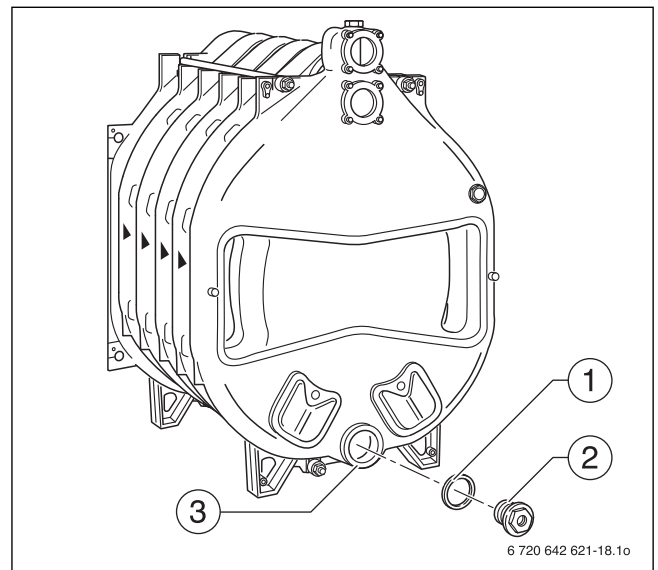

Fig. 23 Fitting the flange
- ▶ Close off lower boiler hub (Fig. 23, [3]) at the front and rear. To do this, place corresponding seal (Fig. 23, [1]) on the relevant boiler hub and seal-in the relevant sealing plug. In this case, the sealing plug with the R  $\frac{3}{4}$  tapped hole for the fill and drain connection (Fig. 23, [2]) is mounted on the rear of the boiler.